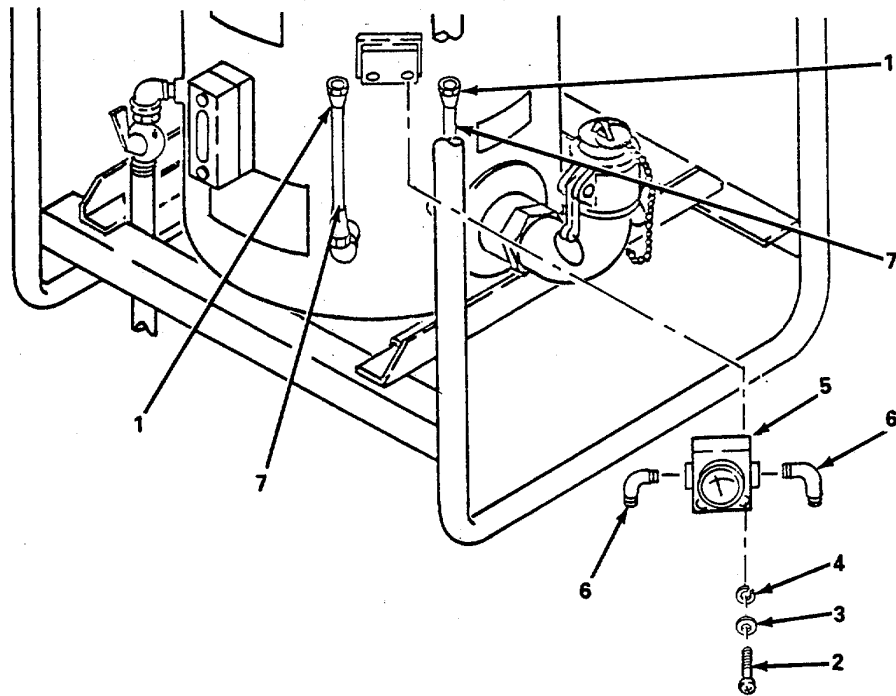

Figure 4-16. Differential Pressure Gauge, Replace.
*Replace.* (figure 4-16)
- (1) Loosen two coupling nuts (1).
- (2) Remove two screws (2), washers (3), and lockwashers (4) and remove differential pressure gauge (5).
- (3) Remove two elbows (6) from differential pressure gauge (5).
- (4) Apply sealing compound to threads on elbows (6).
- (5) Install two elbows (6) and ensure they point down towards lines (7).
- (6) Install differential pressure gauge (5) and secure with two screws (2), washers (3) and lockwashers (4).
- (7) Tighten two coupling nuts (1).